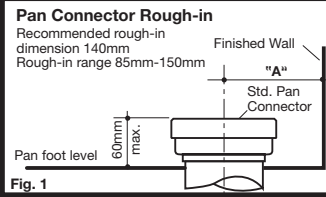
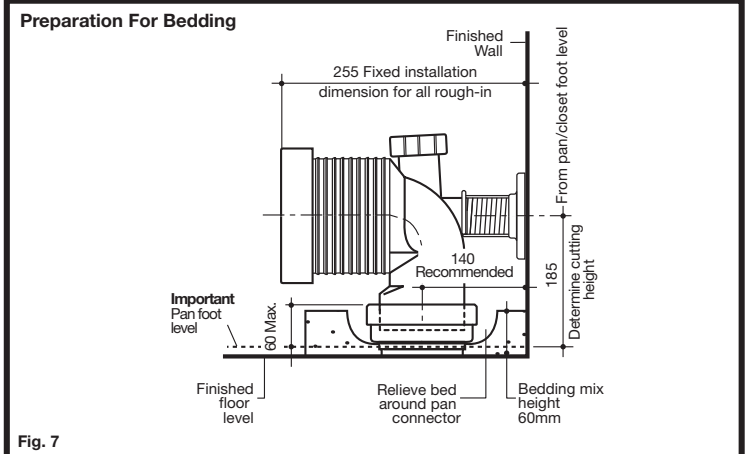
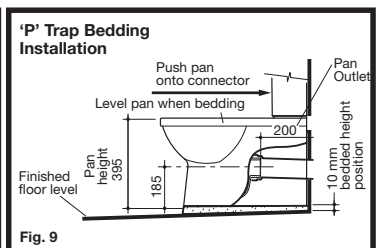

Fig. 1
Fig. 7
Fig. 9
The Wall Faced pan is universal for both 'S' and 'P'-Trap installations as detailed. The recommended set-out for 'S'-Trap installations is 140mm from the finished wall with set-out flexibility for existing soil pipe positions ranging from 85mm-150mm. It is important to position the pan collar 60mm Max. from the foot level of pan as detailed in Fig. 1. (connector not supplied).
- 2- Determine set-out "A" of existing pan connector, as detailed in Fig. 1. Set-out range 85mm-150mm. Recommended set-out 140mm, as detailed in Fig. 7. For 'P' trap installation, as detailed in Fig. 9.
- 3- Prepare bedding sand cement mixture 3:1 to depth of 60mm as detailed in Fig. 7. **Note:** Do not fill the foot of the pan with bedding mix or include lime or fast drying cement into the mix, these may cause cracking in the foot of the pan.